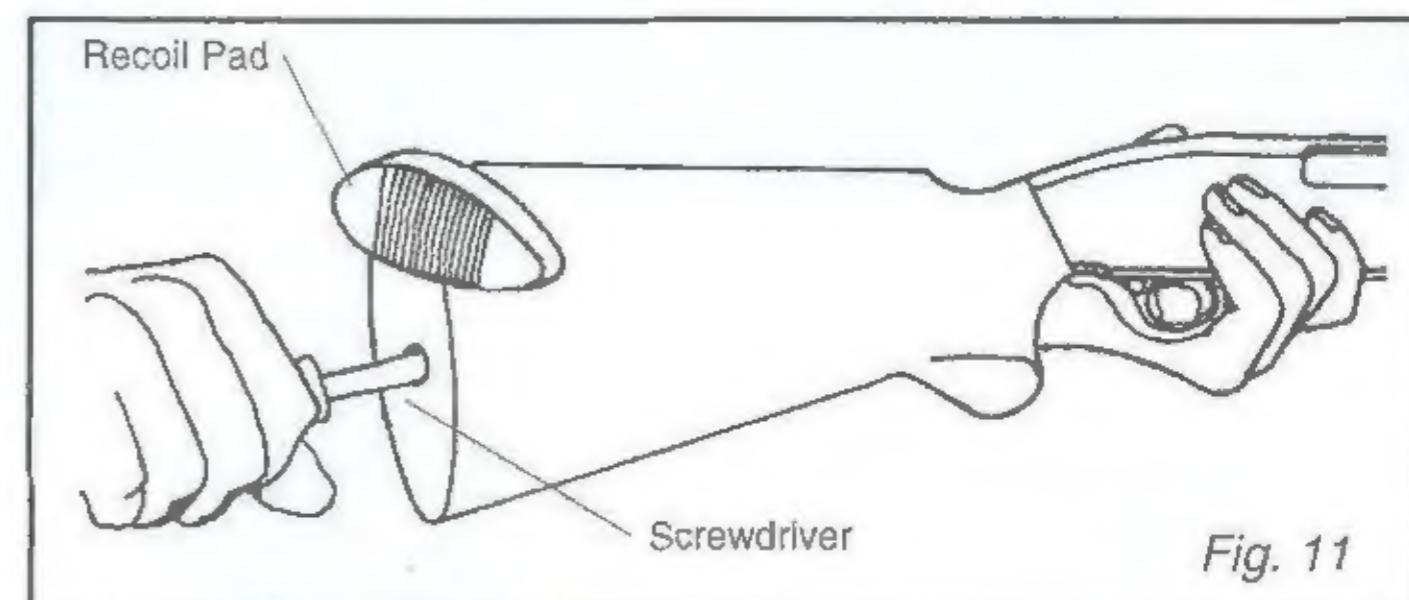

Fig. 11
- Fully loosen one of the screws of the recoil pad. See Fig. 11.